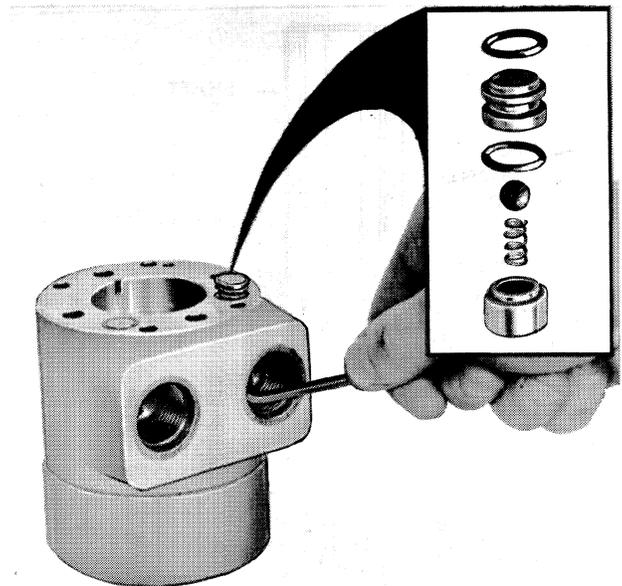

**Figure 11**
5. Reverse the motor in the vise, Figure 11, and remove the four cap screws from the mounting flange. Use a flange puller or tap lightly on the underside of the flange to slide the flange off the splined shaft.